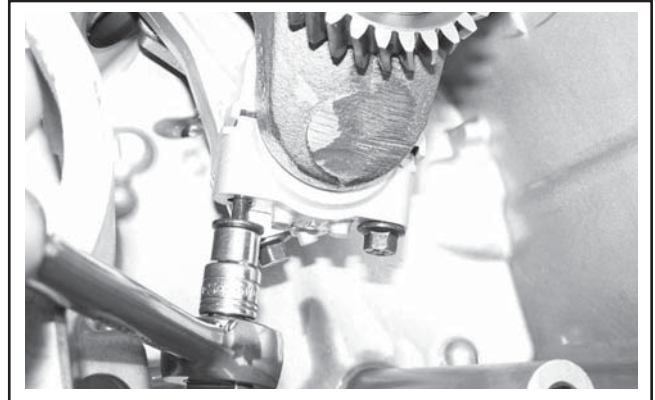

**Figure 8-48. Removing Governor Cross Shaft.**
2. Remove the cross shaft with the small inner washer through the inside of the crankcase. See Figure 8-48.